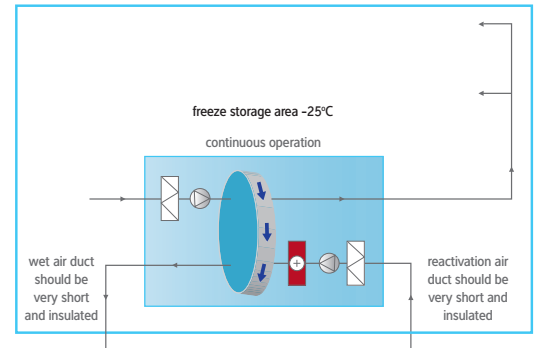

Fig. 1
1. The dehumidifier can be installed inside the freeze room. This will take up some room inside the freezer, and also require the reactivation air ducts (connected to the external air) to be heavily insulated outside of the freezer, to prevent ice forming inside. Ease of maintenance should also be considered, as this may be difficult when the internal temperature is -25°C (See Fig 1).